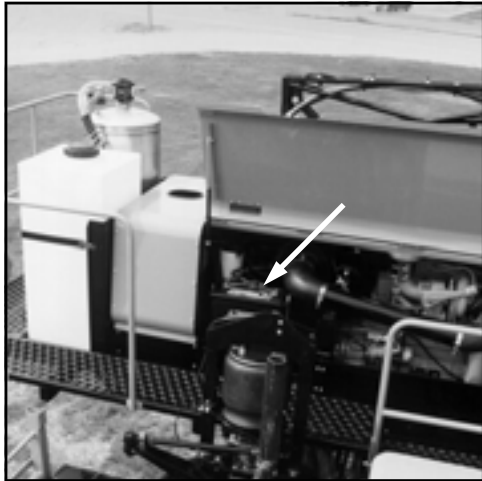
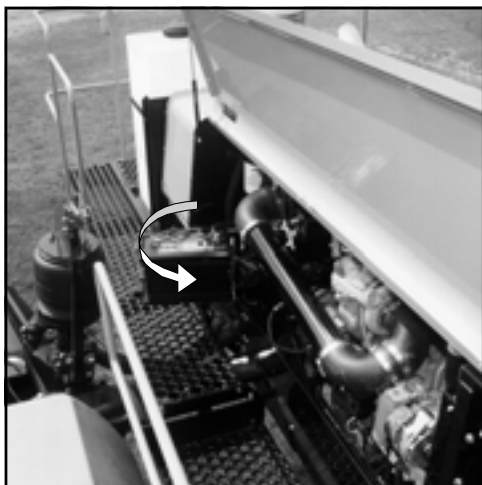

FIG 8.34
FIG 8.35
**SERVICE ACCESS** - The battery is located at the rear of the machine under the right engine hood (fig. 8.34). It is mounted on a pivoting plate which, when unbolted and swung out, allows the operator ease of battery maintenance and filter access (fig. 8.35).